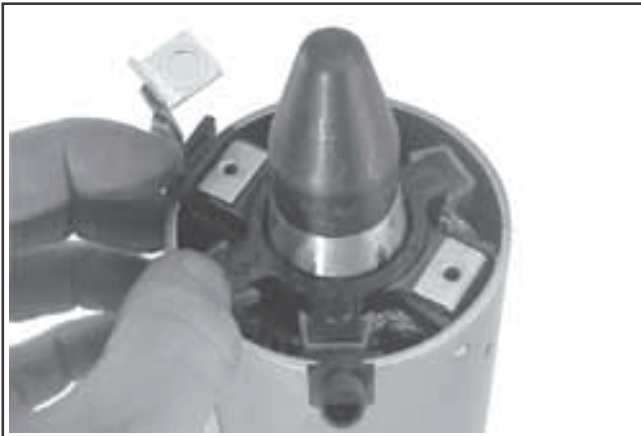

Figure 7-42. Installing Brush Holder Assembly using Tool with Extension.
- d. Hold the starter assembly vertically on the end housing, and carefully place the tool (with extension) and assembled original brush holder assembly onto the end of the armature shaft. Slide the brush holder assembly down into place around the commutator, install the positive (+) brush lead grommet in the cutout of the frame. See Figure 7-42.